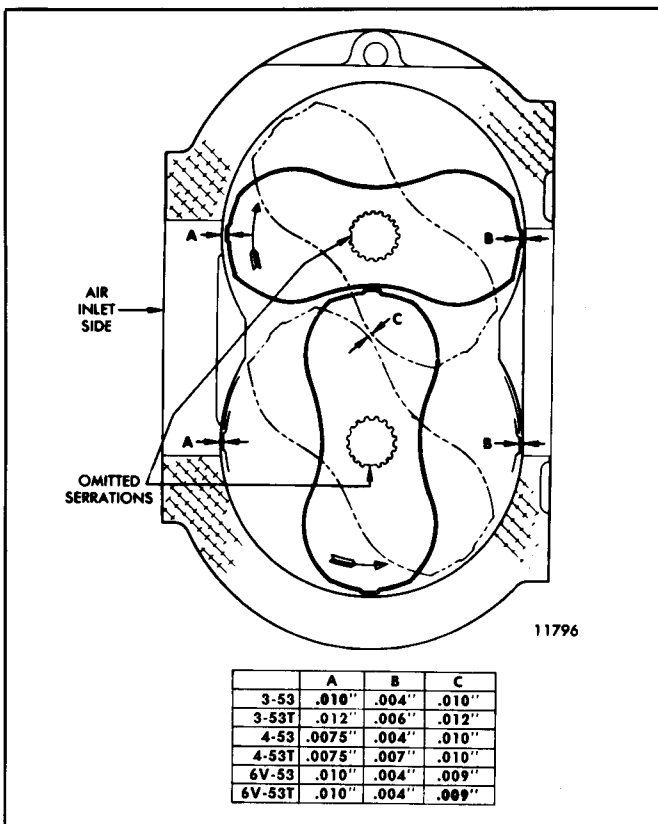
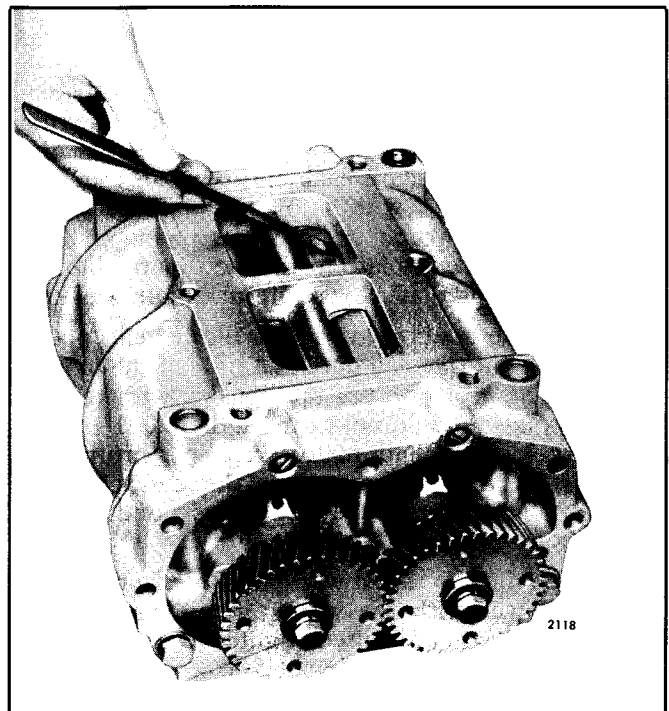

Fig. 16 - Minimum Blower Rotor Clearance
Fig. 18 - Measuring Rotor Lobe to Housing Clearance
9. Position the rotors so that the missing serrations on the gear end of the rotor shafts are 90° apart. This is accomplished by placing the rotors in a "T" shape, with the missing serration in the upper rotor facing to the left and the missing serration in the lower rotor facing toward the bottom (Fig. 16). Install the shims and spacers in the counterbore in the rear face of the rotor gears. Then, place the gears on the ends of the shafts with the missing serrations in alignment with the missing serrations on the shafts.
- a. Measure the clearance between the rotor lobes and the housing (Fig. 18). Take measurements across the entire length of each rotor lobe to be certain that a minimum clearance of .004" exists at the *air outlet side* of all blowers and a minimum clearance of .0075" (In-line engine blower) or .010" (6V engine blower) exists at the *air inlet side* of the blower (Fig. 16).
- b. Measure the clearance between the rotor lobes, across the length of the lobes, in a similar manner. By rotating the gears, position the lobes so that they are at their closest relative position (Fig. 16).